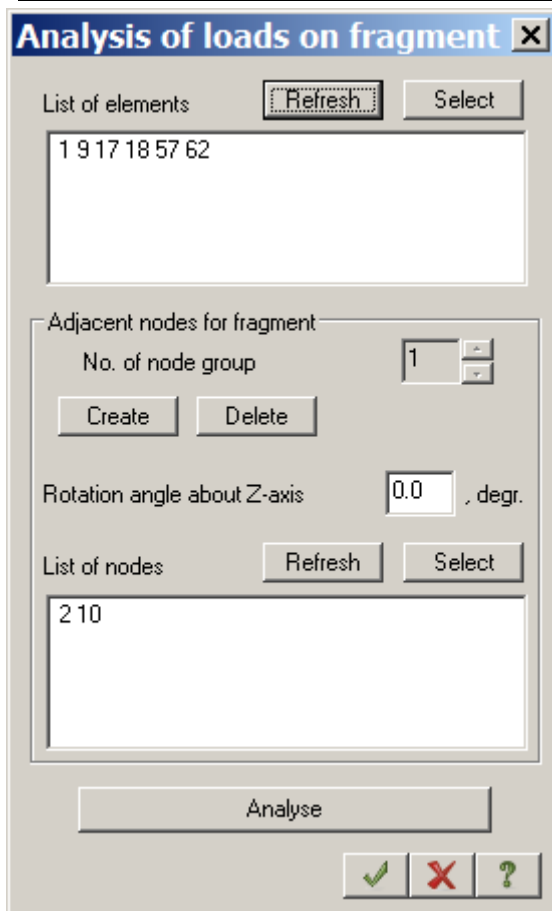

Figure 5.30 **Analysis of loads on fragment** dialog box
- ⇒ In the **Analysis of loads on fragment** dialog box (see Fig.5.30), specify the following parameters: